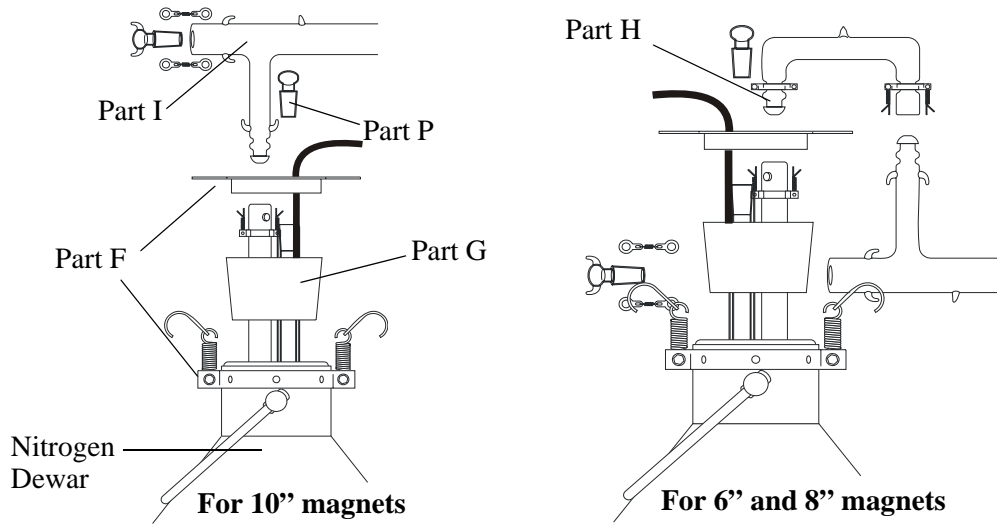

Figure 2-8 Attaching the transfer line/evaporator assembly to your magnet.
2. **Insert the evaporator into the storage dewar that has been previously filled with liquid nitrogen.** Wear a protective face shield or goggles and suitable gloves when performing this step. Very carefully begin slowly lowering the evaporator assembly (**part G**) into the nitrogen storage dewar. Inserting the evaporator too quickly, will cause the liquid nitrogen to boil violently and splash out of the dewar. Not only can this cause injury, but splashing liquid nitrogen onto the rubber stopper will cause it to freeze and will prevent you from getting a good seal between the stopper and the top of the liquid nitrogen dewar. When you get the evaporator completely inserted, push firmly on the rubber stopper portion of the evaporator assembly to ensure a good seal. Then use the hook shaped handles on the spring clips to insert the springs into the holes of the ring bracket (**part F**) on top of the rubber stopper. (See Figure 2-8.) You will notice cold gas coming out of the nitrogen refill opening in the top of the evaporator assembly.
3. **Connect the transfer line to the evaporator assembly.** (See Figure 2-8.) Position the evaporator and dewar assembly so that the recessed ground glass fitting is just underneath the ball fitting of the L-bend in the transfer line. Connect these two ground glass joints together. Pull the ring clips from the evaporator up and over the hook shaped fittings on the transfer line. If you have a 6 inch, 8 inch or 9 inch magnet, you will need to connect the U-shaped adapter (**part H**) to the transfer line. In this case the L-bend of the transfer line will point upwards and the fittings on the adapter will point toward the floor. (See Figure 2-8.) Connect the other end to the ground glass fitting in the evaporator.